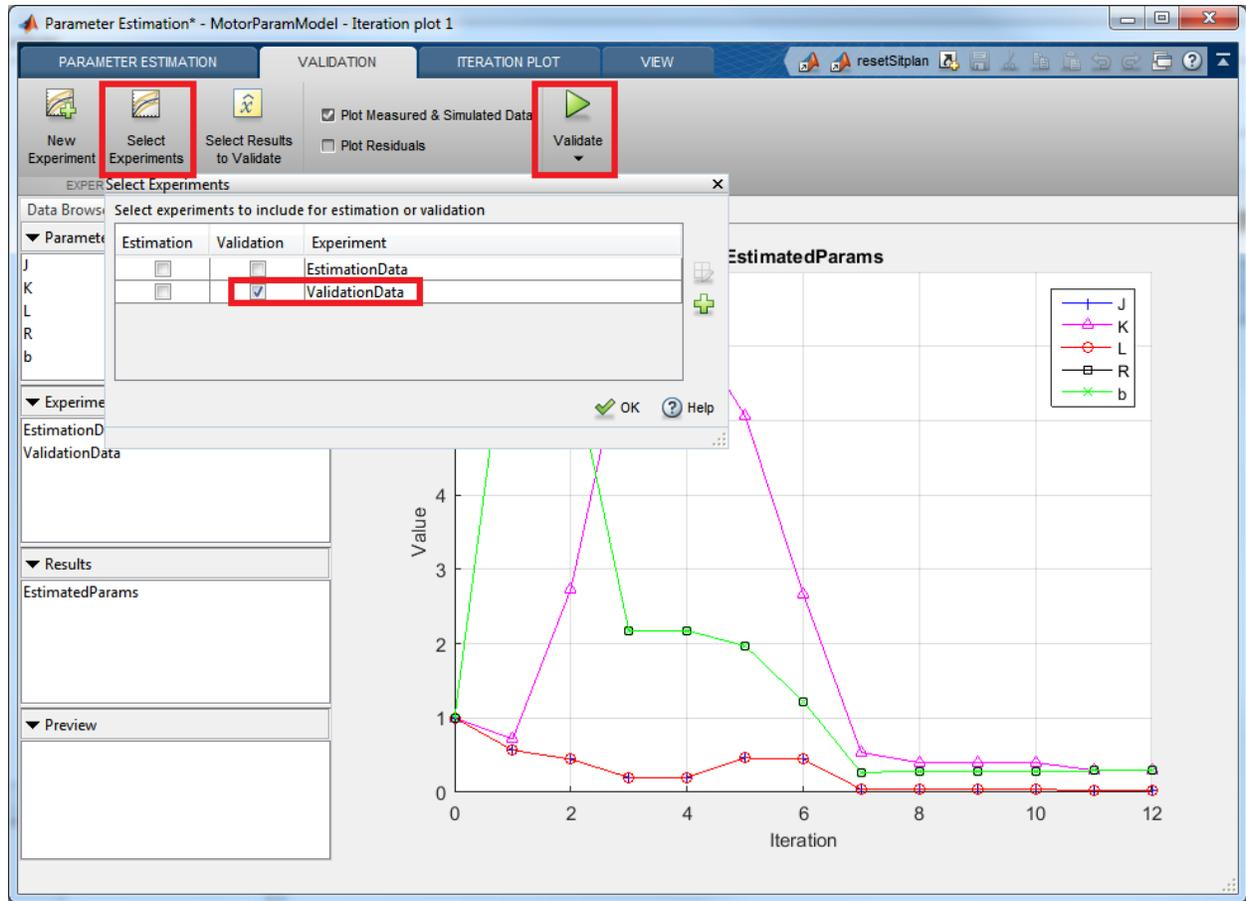

Figure 40 - Parameter Estimation Tool – Validation
- Next, navigate to the **'Validation'** tab. Click 'Select Experiments', check 'ValidationData' check box under 'Validation' and click on **'Validate'** as shown in Figure 40.